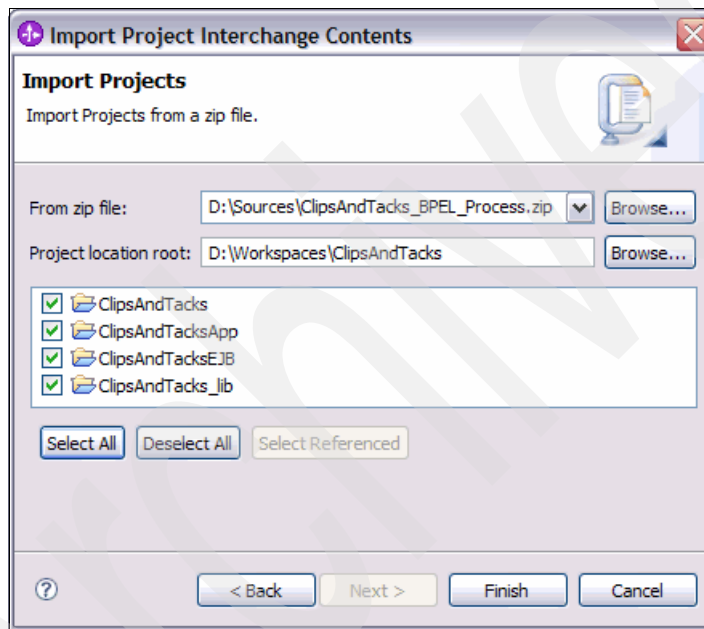

Figure 5-5 Selecting the ClipsAndTacks EAR file
- c. In the Import Project Interchange Contents window (Figure 5-5):